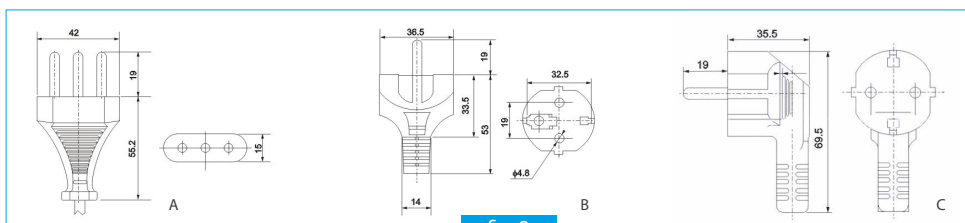

fig. 2
- Plugs used according to standards S10/11 S16/17 (maximum plug length 55,2mm excluding contacts, cable diameter 5-10mm), (fig. 2-A).
- Plug used according to standards S30/S31 with axial cable (maximum plug length 53mm excluding contacts, cable diameter 5-10mm), or with 90° cable (fig. 2-B,C).